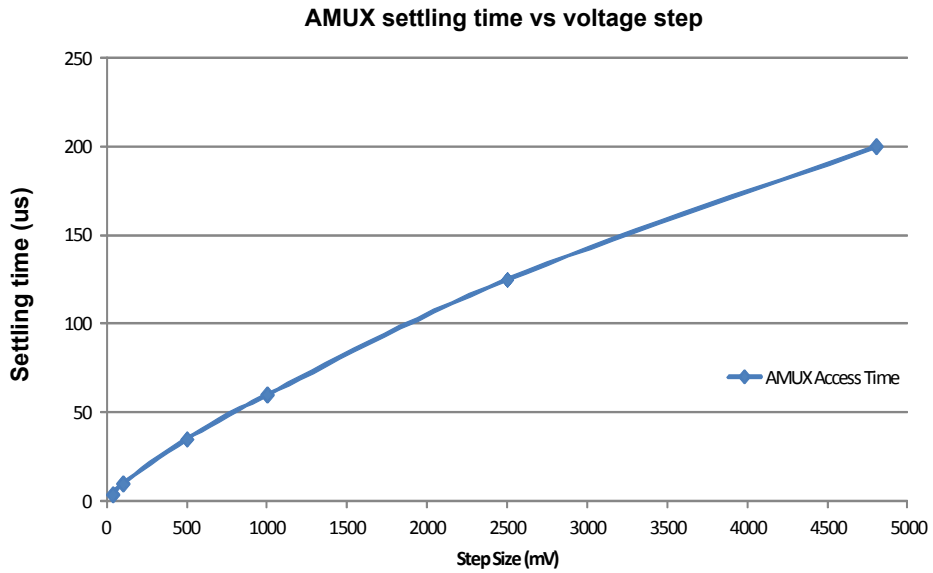

Figure 9. AMUX access time waveform
- 24. AMUX settling time to be within the 10 mV offset specification. $AMUX_{VALID}$ is dependant of the voltage step applied on the input SGx/SPx pin or the difference between the first and second channel selected as the multiplexed analog output. See Figure 9 for a typical AMUX access time VS voltage step waveform.